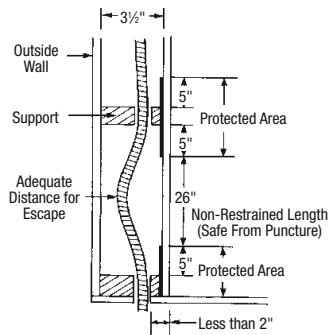

Figure 4.9 Elevated View of Unsupported Horizontal Tubing Run
- At support points and areas of possible penetration less than 2 inches away from any edge of a stud, joist, plate, etc., shielding is required both at the area of support and within 5 inches of each side. (Figure 4.9)